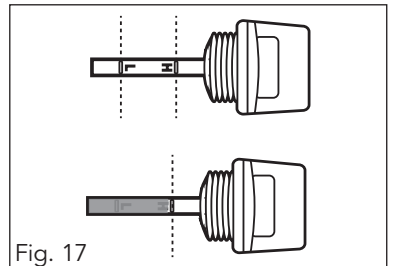

Fig. 17
3. If the oil level is below the end of the dipstick, refill (use funnel (20)), do not tip pressure washer) until it registers on the halfway mark of the dipstick (fig. 17). Use premium quality 4-stroke engine oil. Recommended SAE30 or 10W30 for most climate conditions in Australia.